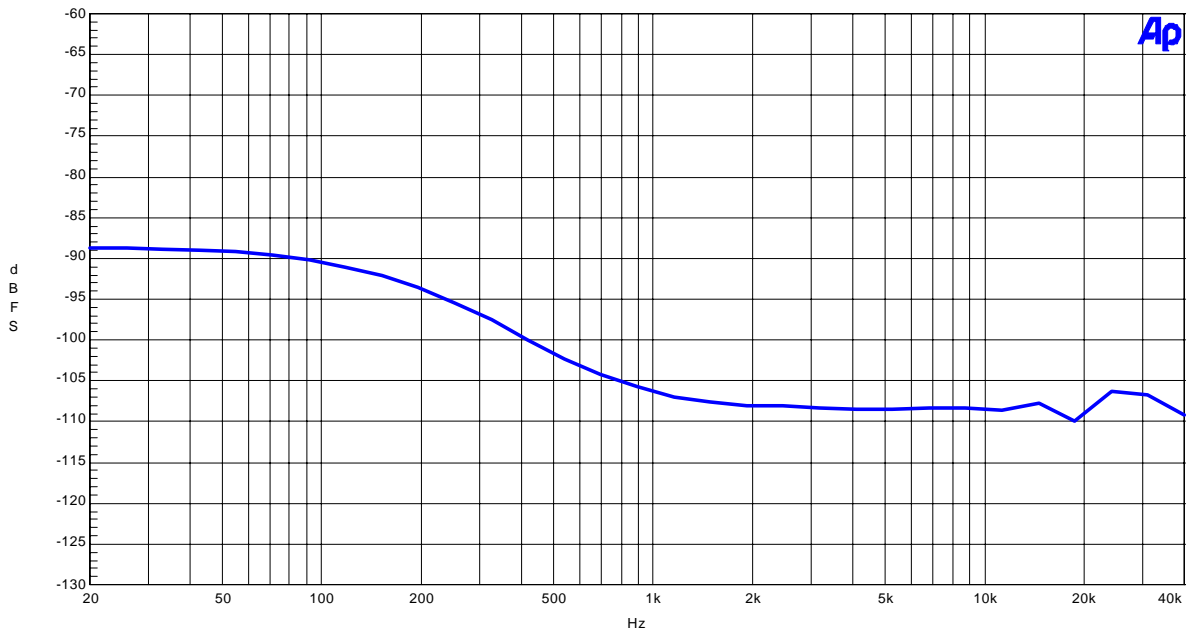

Figure 1-2-4. FFT (off the input)
- Figure 1-2-4. THD+N vs Input Frequency (-1dB input)